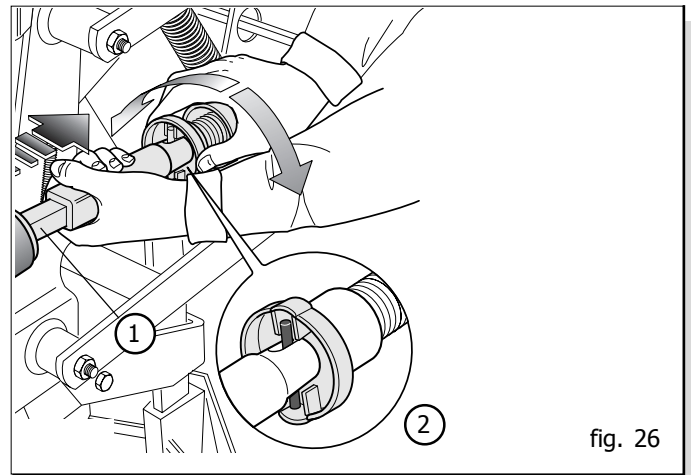

fig. 26
- Press and hold down the sleeve (1 Fig. 26) in the direction indicated by the arrow, push forward while turning the ring nut (2 Fig. 26) until the iron pin comes free.
- Pull the sleeve back as far as it will go (1 Fig. 26).